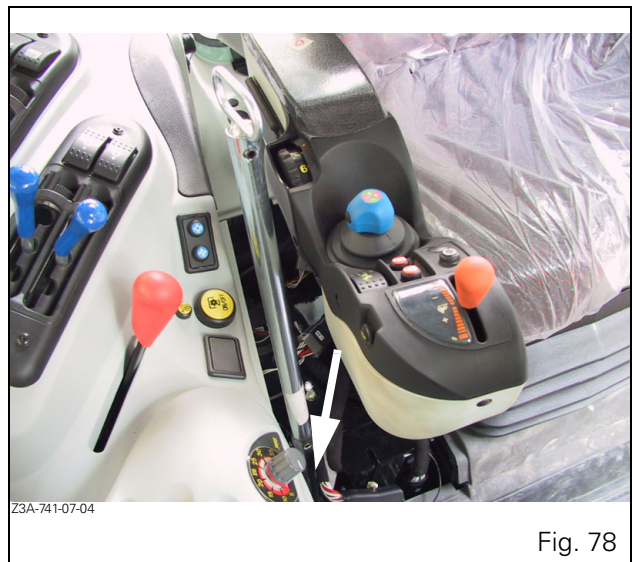

Fig. 78
3. Position the emergency lever on the control unit (C) (Fig. 78).